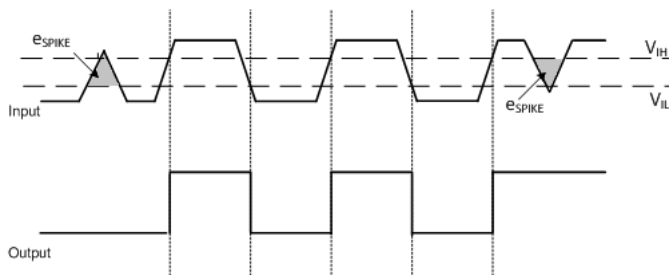

Figure 45 Input Glitch Rejection of Low-Power Receiver
The Low power receivers must have an ability to reject short-term glitches (any input signal smaller than e_{SPIKE}), which are the narrow pulses with voltage levels outside of the current logic state. However, the receiver state does not change as their widths are sufficiently shorter than the nominal T_{LPX} interval as shown in Figure 45.
- eSpike Logic 1 Input Voltage – Specifies the lower receiver detection threshold level for a logic 1. It is the voltage level just below the LP high level voltage and is represented by V_{IH} (refer to Figure 45).
- eSpike Logical 0 Input Voltage – Specifies the upper receiver detection threshold level for a logic 0. It is the voltage level just above the LP low level voltage and is represented by V_{IL} (refer to Figure 45).